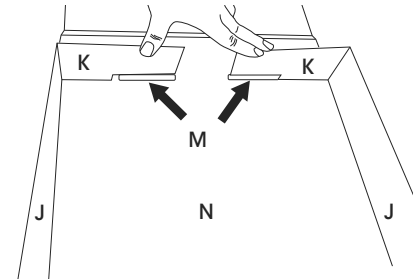

Figure 18
2. On one side of the box lid, fold in lid sides (K) over slots (M). (See Figure 18)